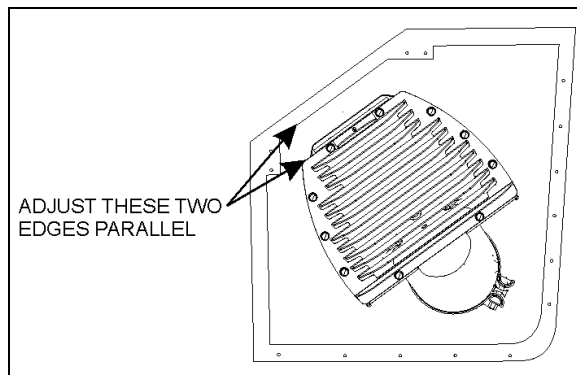

FIGURE 10: DIFFUSER POSITION ADJUSTMENT
2. For proper angular position, make sure that the two edges shown on figure 10 are parallel with each other.